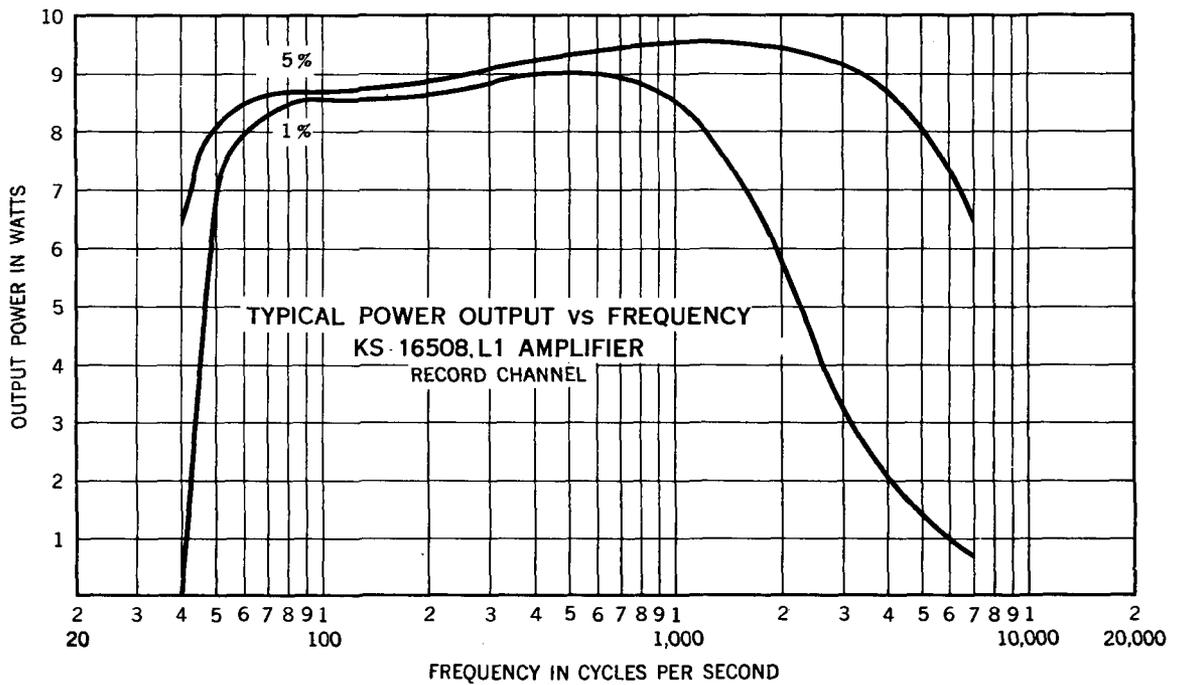

Fig. 6 - Output Power vs. Frequency
7.03 Fig. 6 shows the output power versus frequency characteristics of the record channel for 1% and 5% distortion.